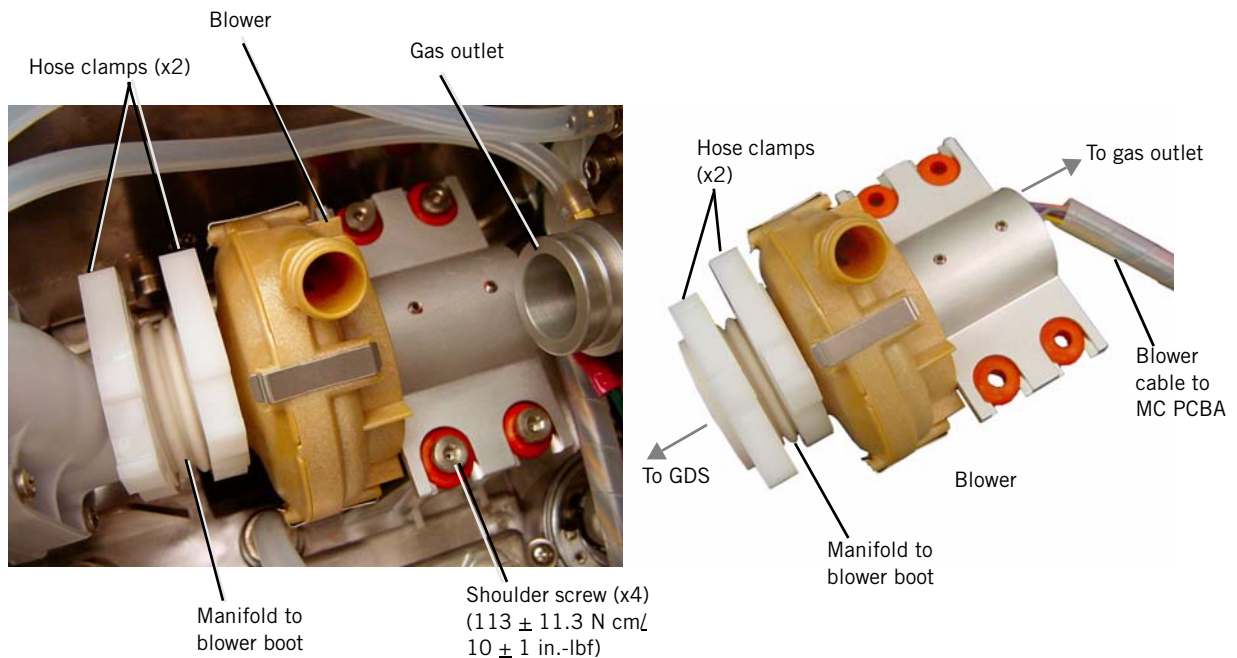

Figure 7-28: Removing the Blower
7.27 Blower Follow these steps to remove the blower (Figure 7-28). Reverse to install.